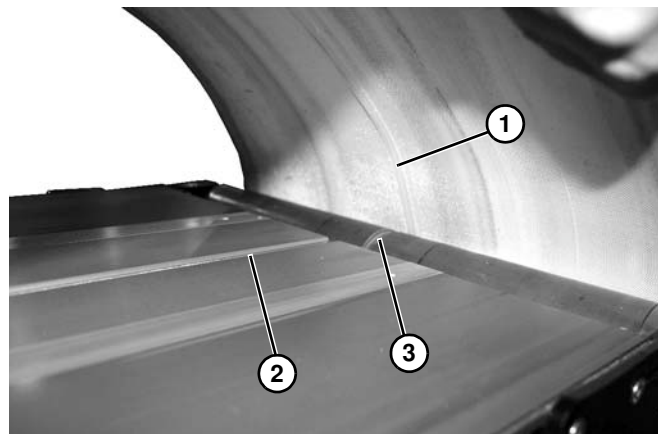

Figure 55
Verify V-Guide on belt (Figure 55, item 1), is aligned with V-Guide in frame (Figure 55, item 2) and tails (Figure 55, item 3).